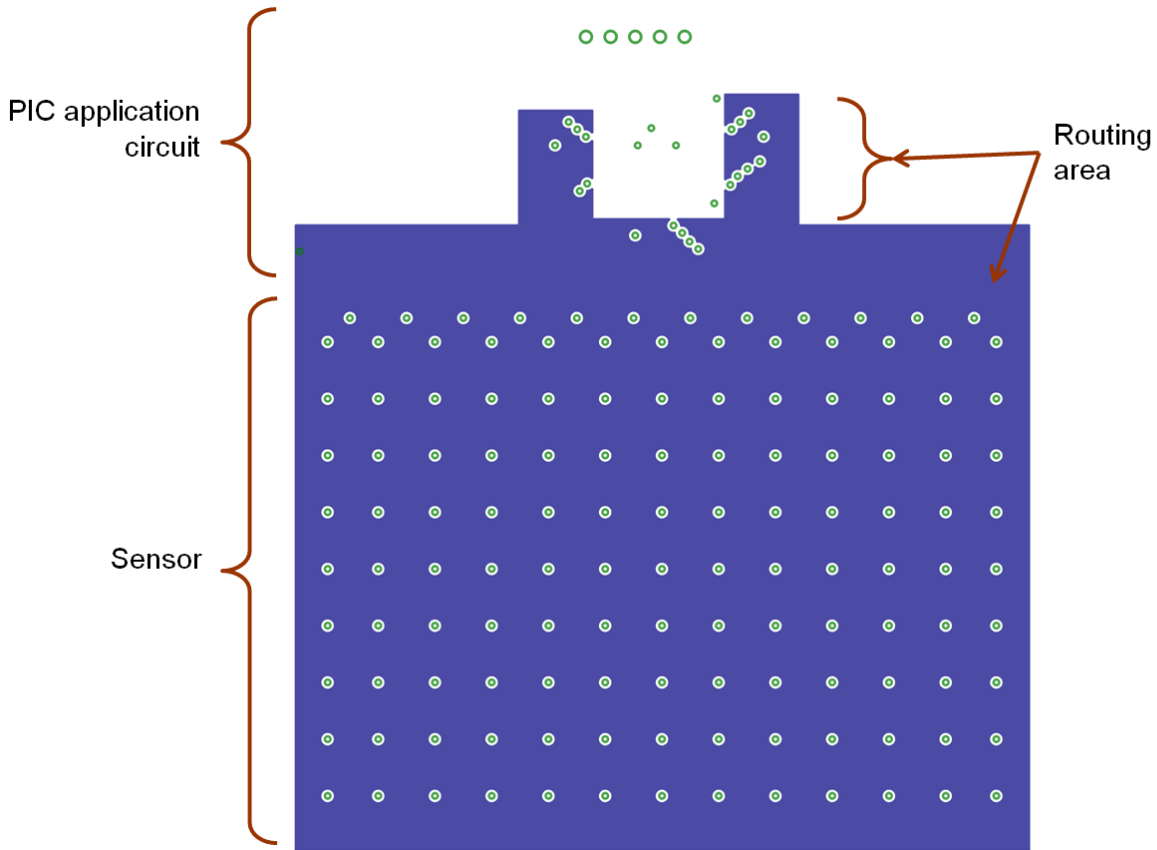

Figure 9 : PCB Example – 2nd Layer Copper
- Figure 9 : PCB Example – 2nd Layer Copper.....9*